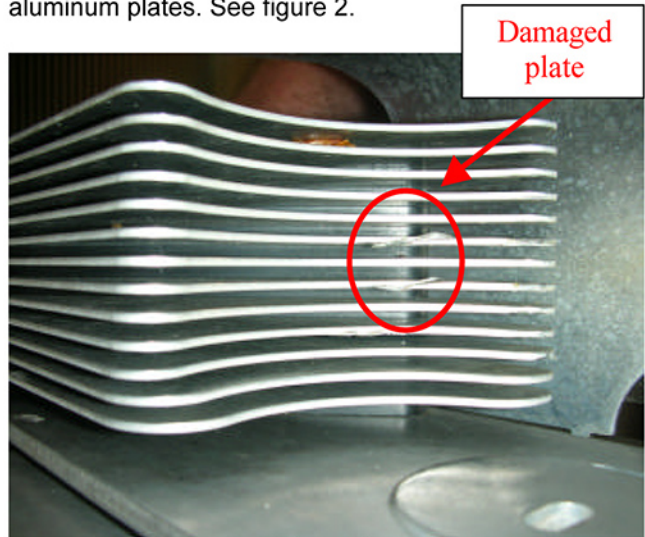

Figure 2
3. Inspect pusher head for signs of damage to the aluminum plates. See figure 2.